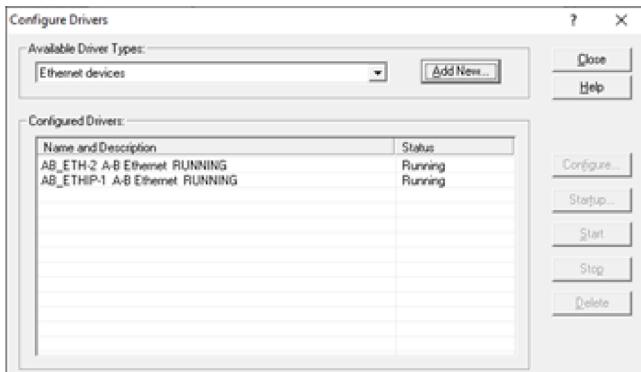

Fig. 24 — Configure Drivers
1. When starting CCW go to Communications drop down and select Configure Drivers. See Fig. 24.